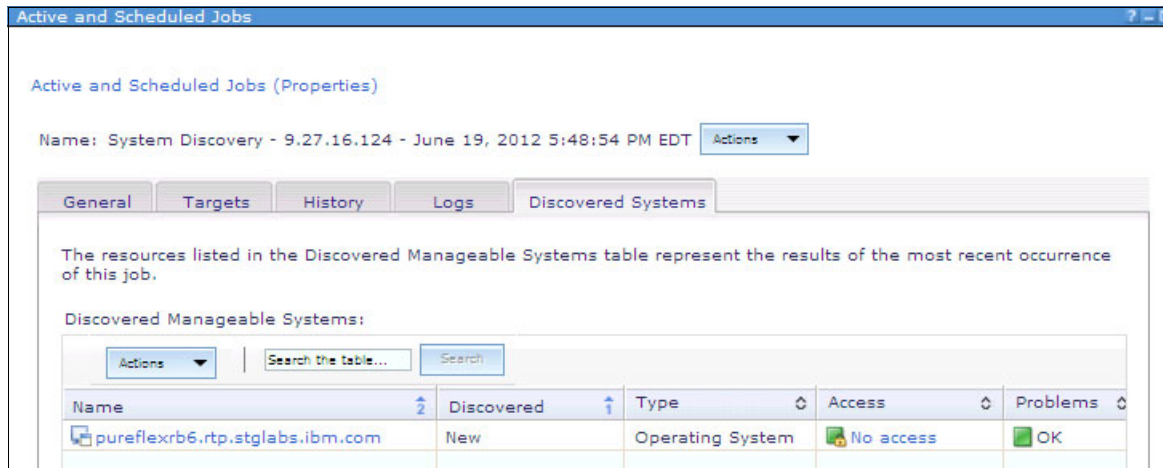

Figure 9-26 Discovered systems
- Click the **Discovered Systems** tab as shown in Figure 9-26.